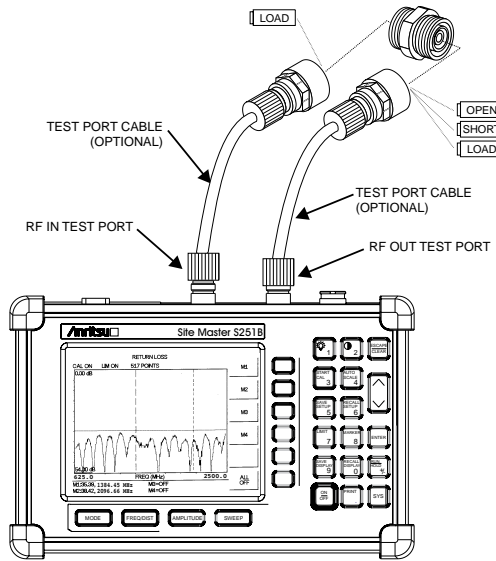

Figure 4-17. Two-Port Measurement Calibration Setup
**Step 9.** Connect the test port extension cables to the RF In and RF Out test ports as shown in Figure 4-17.